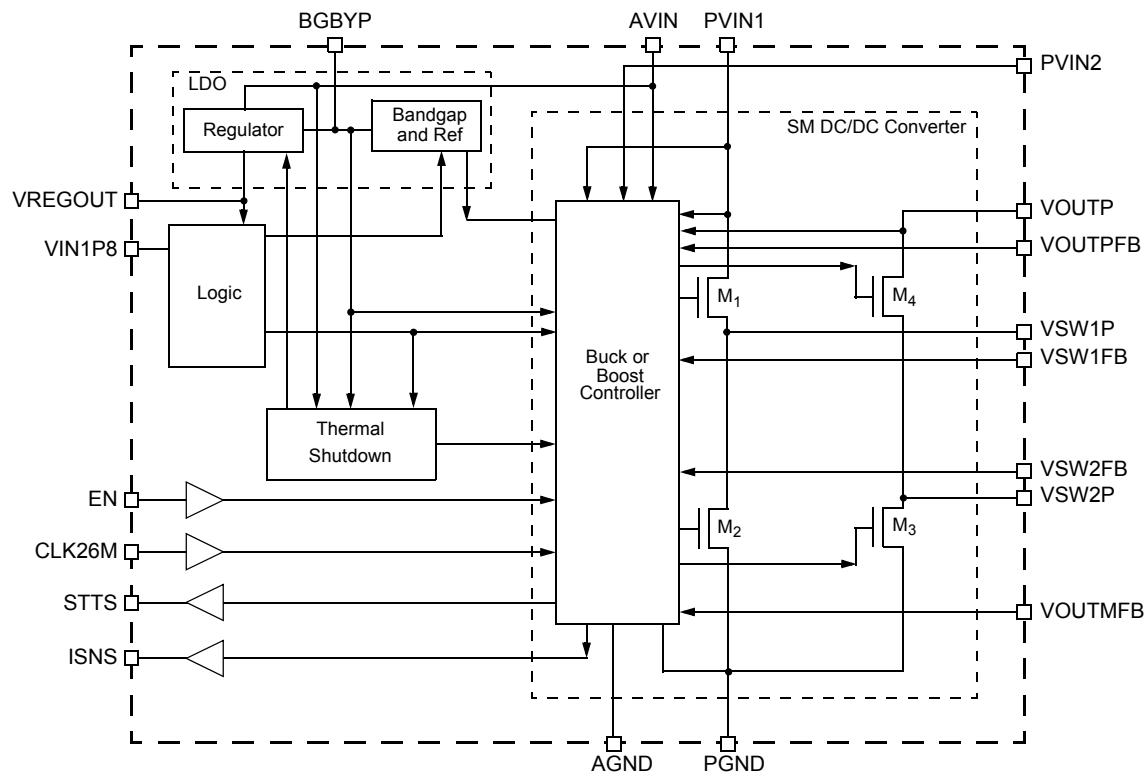

Figure 2. 900842 Internal Block Diagram
8. The IC has an input peak current limit in which M1 is the current sense device (Figure 2). This maximum current is different than the output current if the IC is in Boost mode